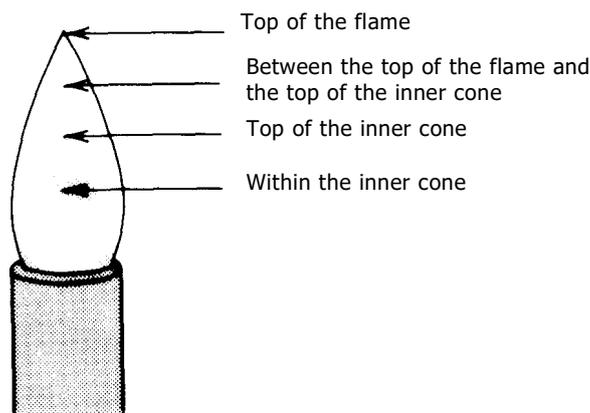

Figure 1.5 Regions of the flame temperature measurements.
- On the Report Sheet record the estimated temperature of the flame in the regions designated in Figure 1.5. Extinguish the flame when it is not being used by turning off the gas valve at the outlet on the lab bench.
2. [ⓑ] Based upon the melting points of the metals, estimate (on the diagram) the temperature of the following regions of the flame (see Figure 1.5).
③ Determine the mass of the following objects on the respective balance. Express your results with the Correct sensitivity. Compare the masses recorded for the same object on the different balances.